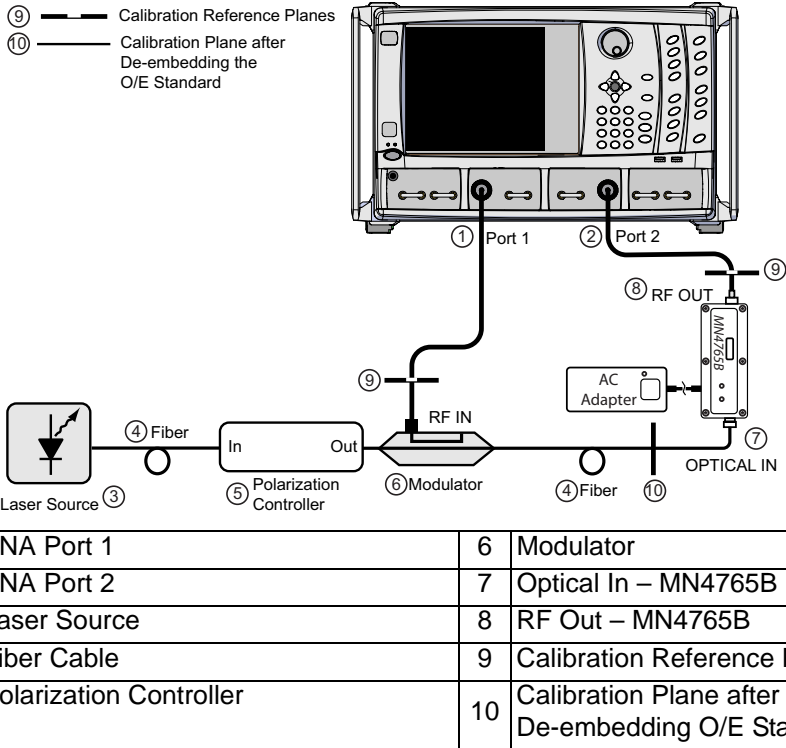

Figure 2-2. MN4765B E/O Measurement Setup With a VectorStar VNA
Connect the MN4765B Calibration Module to the Vector Network Analyzer. The example in Figure 2-2 on page 2-4 shows how to connect the MN4765B Calibration Module to an Anritsu VectorStar VNA. The connections to the VNA test ports are the same for the other Anritsu Vector Network Analyzers. With the MN4765B-0110 (110 GHz option), an ME7838X broadband system that incorporates an MS464xB VNA is required.
4. Connect the modulator DUT to the MN4765B photodiode in series as shown in Figure 2-2 on page 2-4.
The setup shown in Figure 2-2 can also be applied to O/E measurements of a photodiode or photo-receiver DUT. Photodiodes demodulate the electrical signal from the optically modulated light in a fiber optic transmission network. An external laser source, used with a characterized modulator, provides the input to the O/E DUT. The response of the characterized modulator is de-embedded from the setup using the O/E application menu. The characterization file for the modulator can be generated using the MN4765B. See Appendix A for instructions on generating an s2p file.
4. After entering the s2p file for the characterized modulator, the VNA is now calibrated and ready to make O/E measurements. Connect the characterized modulator and detector under test as shown in Figure 2-2 on page 2-4.
4. Connect the optical components together as shown in Figure 2-2 on page 2-4. Apply bias to the photodiode and to the modulator before turning on the laser.